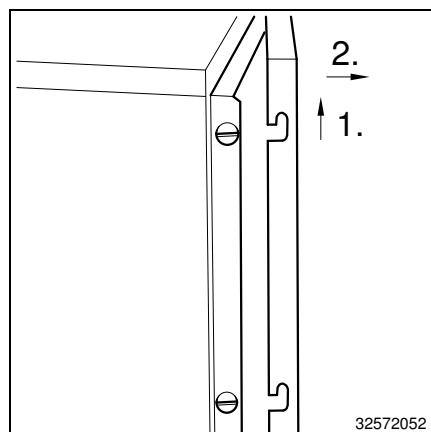

Fig. 29 Front cover
- Lift the front cover up against the stop (Fig. 29/1)
- Pull the front cover off to the front (Fig. 29/2).